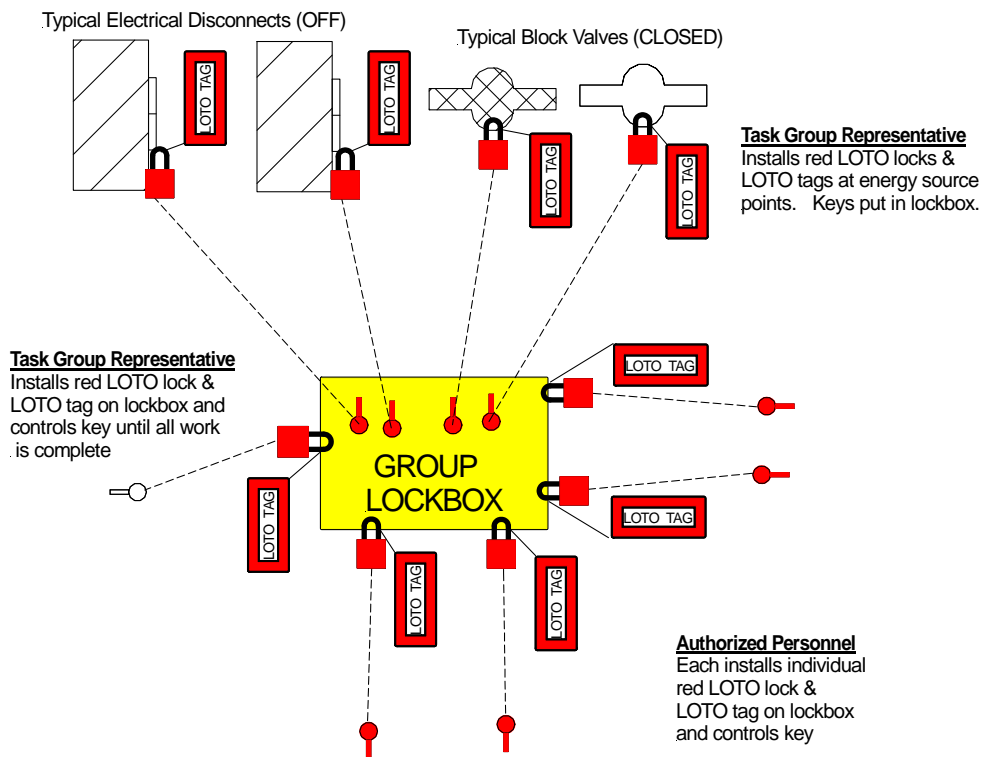

Figure 8.2-2. Group LO/TO multiple energy source control points.
- e. Multiple energy sources, multiple maintenance, servicing personnel, and **multiple point sources using lockbox** (figure 8.2-2):